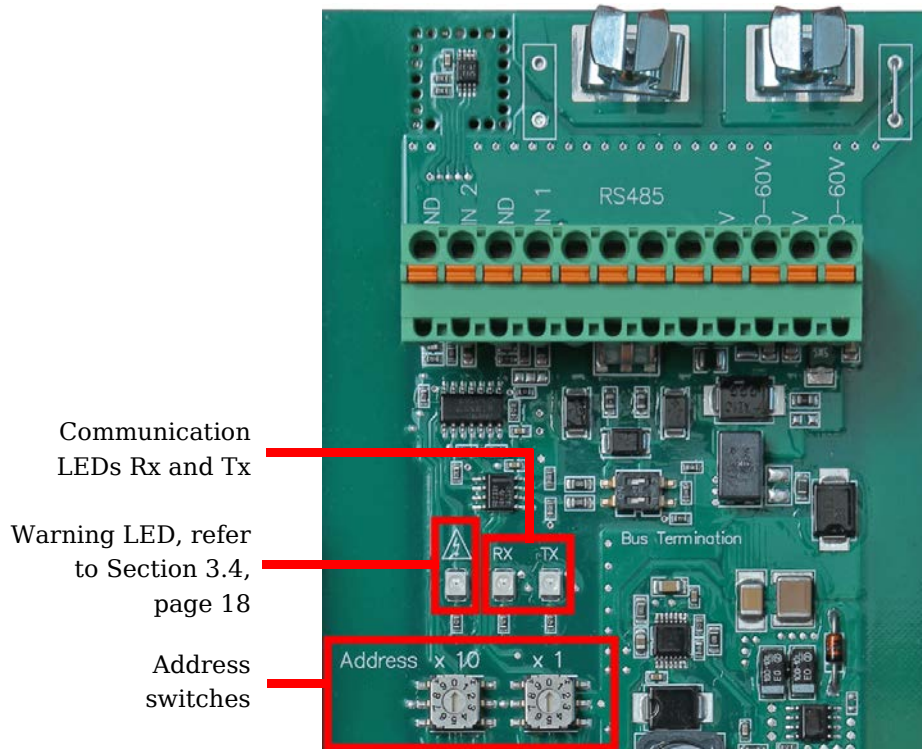

Fig. 4-1 Switches for setting the bus address.
The “Warning” LED on the circuit board (Fig. 4-1 on page 19) lights when a voltage exceeding 40 V is present on one of the terminals for the PV strings.
1. Set the decade place of the address with the switch x 10 (to the left in Fig. 4-1).
The Rx LED lights when communication is taking place on the bus. Tx lights when the module itself is transmitting. Refer to Fig. 4-1, page 19 for the location of the LEDs.